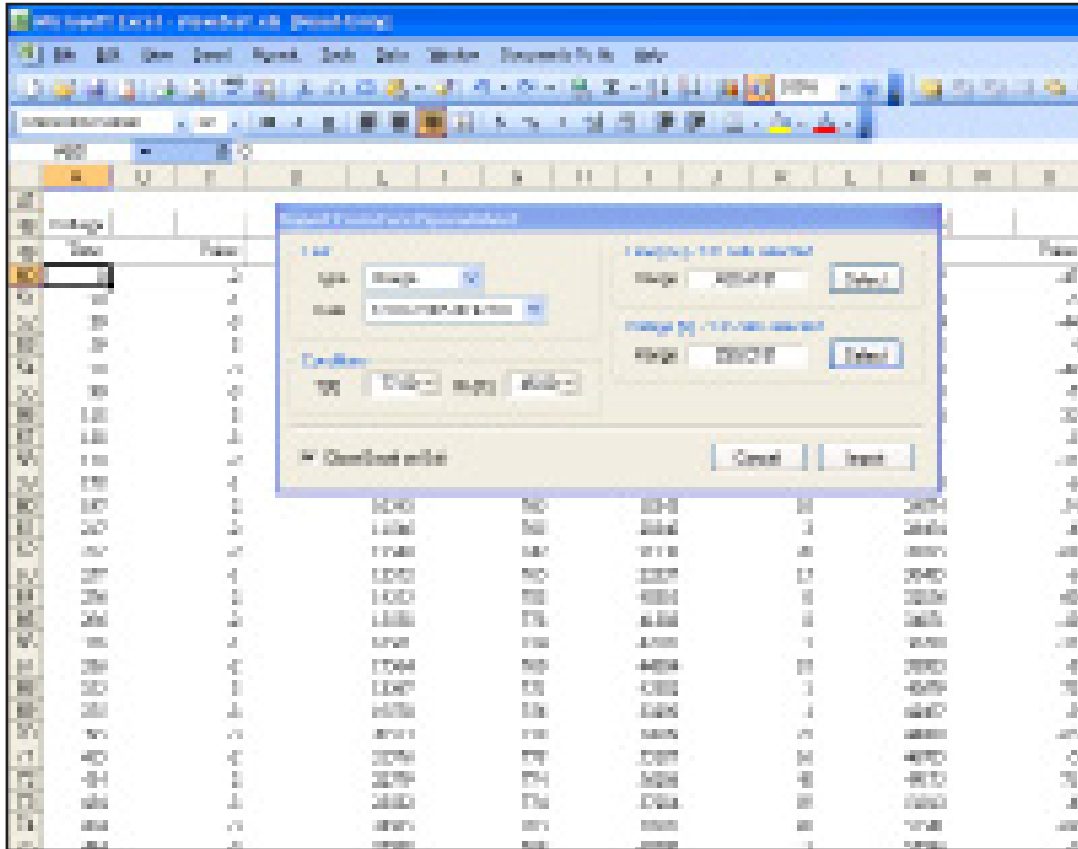

Figure 60: Import Data from Excel Spreadsheet
7. To highlight and select data to be imported (Refer to Figure 60)